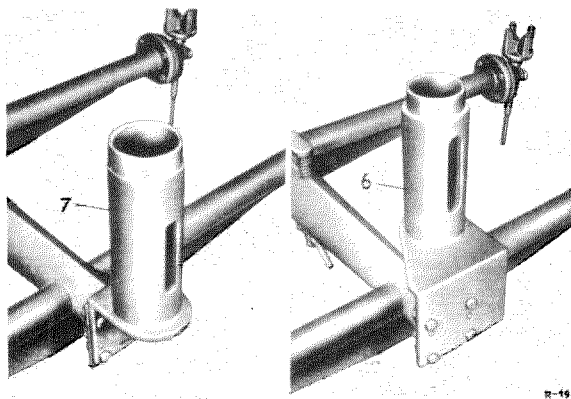

Fig. 61 — 1/2
- 1 adapter tube 970 mm long for Model 190 SL (8)
- 1 adapter tube 1220 mm long for Models 180, 180 D, 190 (9)
- 1 adapter tube 1390 mm long for Models 220 a, 220 S (10)
- 1 adapter tube 1270 mm long for Model 220 CA (11)
- 1 adapter tube 1320 mm long for Model 219 (12)
- 1 front support (13)
- 2 rear holders (14)
- 3 front holders (15)
1. Fit the adapter tube (9) 1220 mm long which is required for Model 190, to the gage (see Fig. 61 — 1/1).
2. Screw the locking device (6) for the single-jointed rear axle to the gage. The locking device is marked "I" or, on older gages, "220" (Fig. 61 — 1/2).